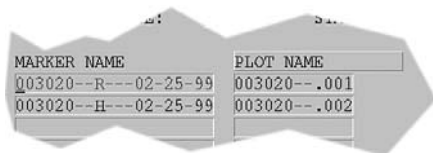

Figure 12. Accumark™ Marker Name Window.
6. Enter the plot file names in the **Marker Name Window**. Use the **F4** key to browse. (Figure 12.)
7. After all of the plot file names are entered, click the **Process** button. The files are saved with the first eight characters of the marker name. They typically have numeric extensions like, *.000* or *.001*. (Figure 12 & 13.)